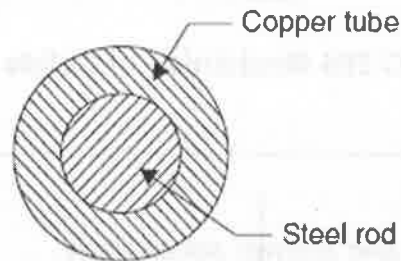

Fig.2
5. A compound bar consists of a circular rod of steel of 35 mm diameter rigidly fixed into a copper tube of internal diameter 35 mm and external diameter 50 mm as shown in figure 2. If the compound bar is subjected to a load of 150 kN, calculate the stresses developed in the two materials.